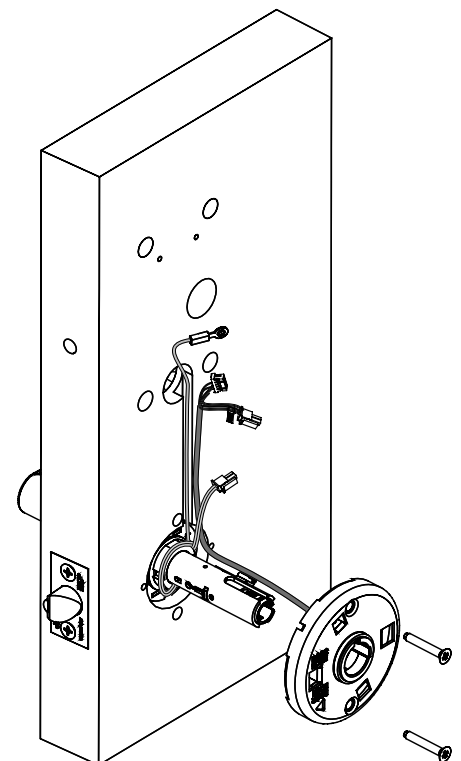

Fig. 7a
- Plug harness into wire from lock body (Fig. 7a, b).
- Install inside spring cassette, and tighten using two #12-24 screws provided (Fig. 7a).